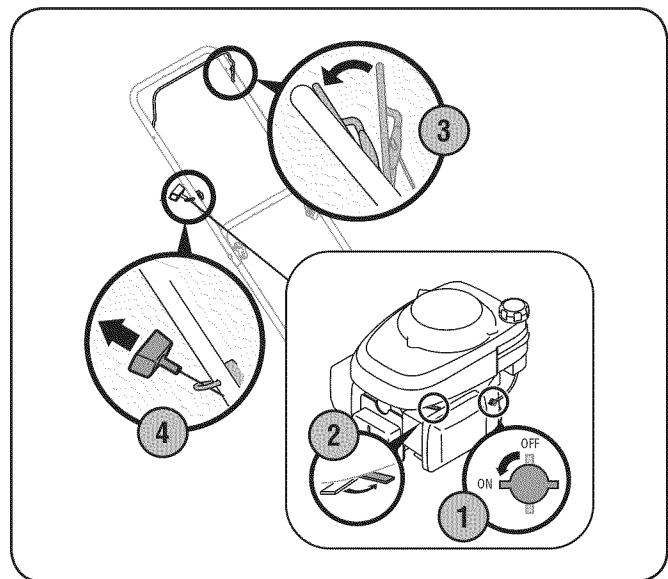

Figure 5-2
1. Place the fuel valve lever (if equipped) found on the left side of the engine into the ON (OPEN) position. See Fig. 5-2.
4. Holding these two handles together firmly, grasp recoil starter handle and pull rope out with a rapid, continuous, full arm stroke. See Fig. 5-2. Keeping a firm grip on the starter handle let the rope rewind slowly. Repeat until engine cranks. Let the rope rewind each time slowly.